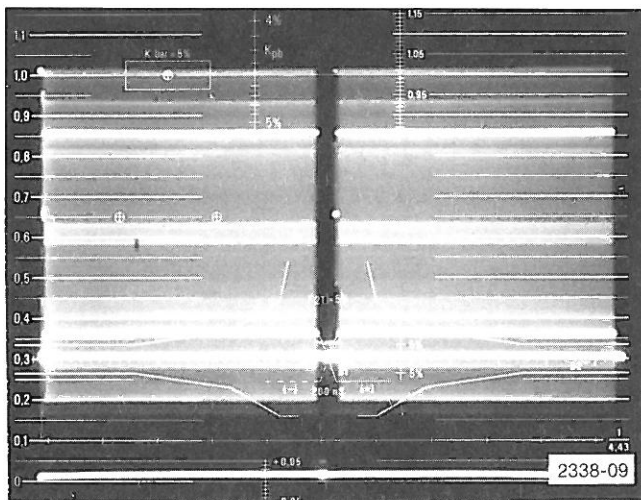

Fig. 1-10. 2-field display.
a. 2 FIELD: Change the DISPLAY to 2 FIELD. Depress the LINE SELECTOR OFF pushbutton. Check for a full 2-field display, including part of the first vertical interval. See Fig. 1-10.